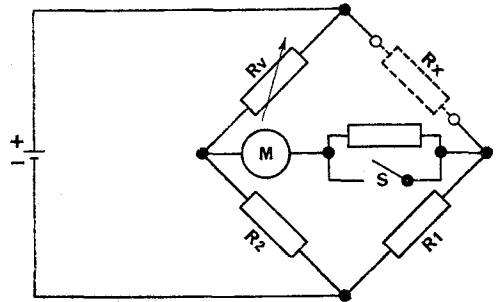

Fig. 6. Wheatstone bridge
13. Bridges are used when an accurate measurement of resistance has to be made on precision components or when very low or very high values of resistance are to be measured. The basic circuit of a Wheatstone bridge is shown in figure 6, but modified forms are often used in practical instruments. When the variable resistor R_v is adjusted to give zero deflection in the meter (null) the bridge is balanced and it can be shown that: